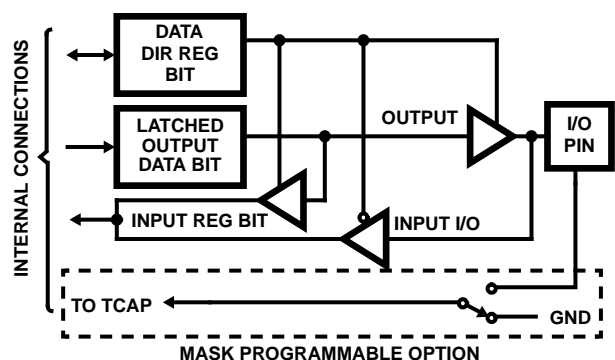

FIGURE 4B. PORT C0 CONFIGURATION
1. When PC0 is connected to TCAP its functions are not disabled and can be used to generate a TCAP input if DDRC bit 0 is set. Refer to Figure 4B.